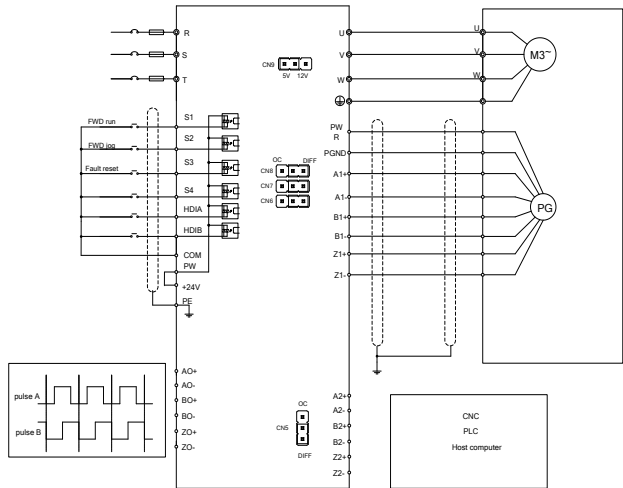
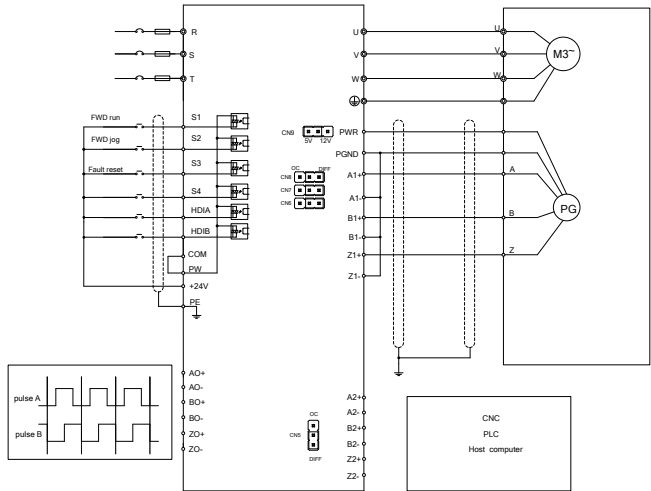

Figure A-12 External wiring diagram when used with a differential encoder
Figure A-13 External wiring diagram when used with a push-pull encoder
- The PG expansion card is configured with a pull-up resistor and can work in combination with multiple types of incremental encoders through various external wiring modes. For the wiring methods, see Figure A-12, Figure A-13 and Figure A-14.